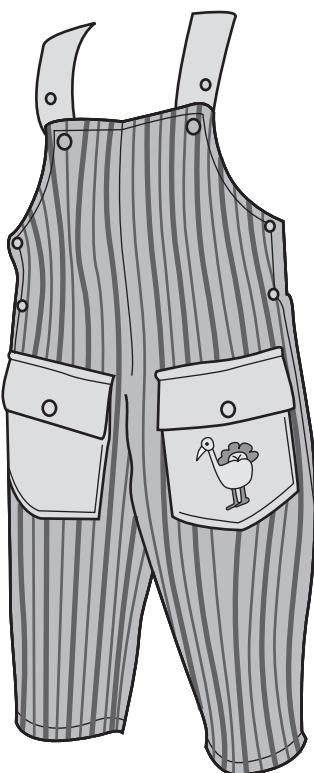

Fig. 11
Fig. 11 shows a pair of children's dungarees.
- (a) Give **four** design requirements for the children's dungarees shown in Fig. 11. Justify each requirement.
- (e) (i) State a **suitable specific fabric** for the children's dungarees as shown in Fig. 11. Give **two** performance characteristics that make the fabric suitable for this use.
- (ii) The children's dungarees shown in Fig. 11 have patch pockets with an embroidered design.